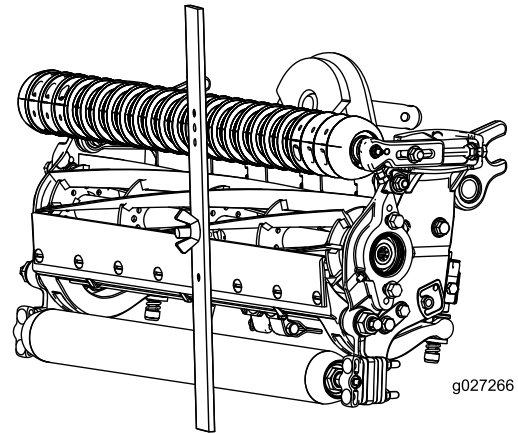

Figure 17
3. Hook the screw head on the cutting edge of the bedknife and rest the rear end of the bar on the rear roller (Figure 17).
4. Rotate the adjusting screw until the front roller contacts the gauge bar (Figure 17). Adjust both